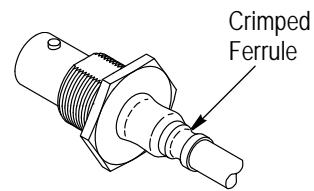
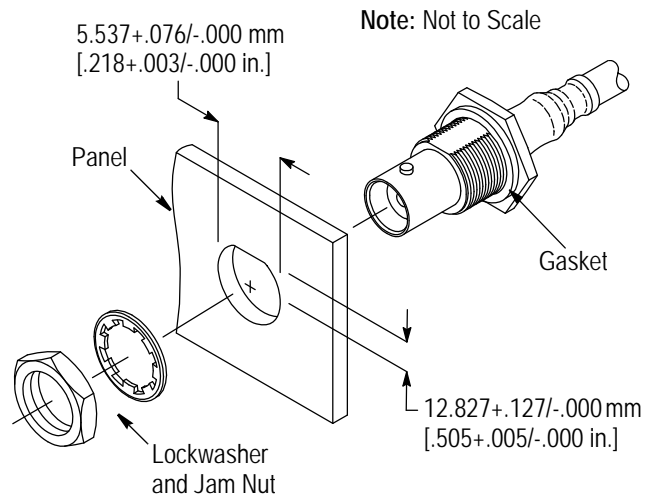

Figure 6
Figure 7
7. Crimp the ferrule onto the support sleeve of the jack body using the appropriate die assembly. Refer to Figure 6.
9. Cut a panel having a maximum thickness of 6.096 mm [.240 in.] using the dimensions provided in Figure 6. Then insert the connector into the cutout, and secure the connector to the panel using the lockwasher and jam nut. See Figure 7.